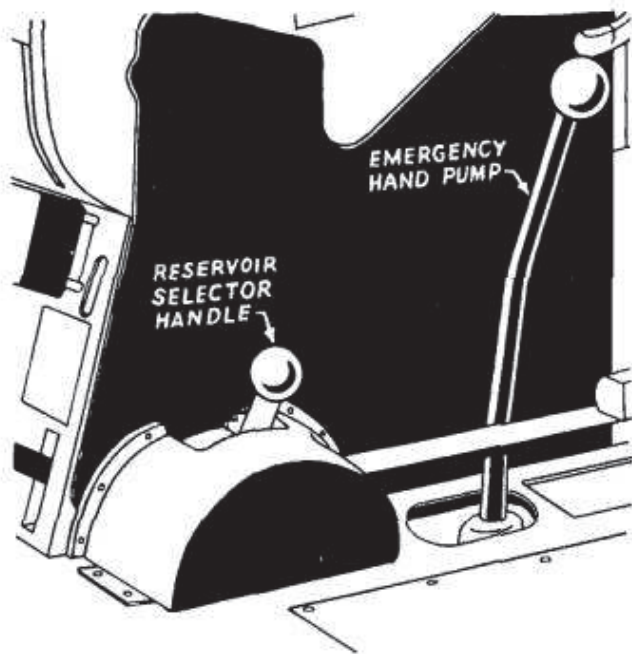

Figure 71 — Emergency Hand Pump and Reservoir Selector Handle
f. The emergency hydraulic hand pump is used to supply pressure to the operating cylinders in case of failure of the normal source of pressure. (See figure 71.)